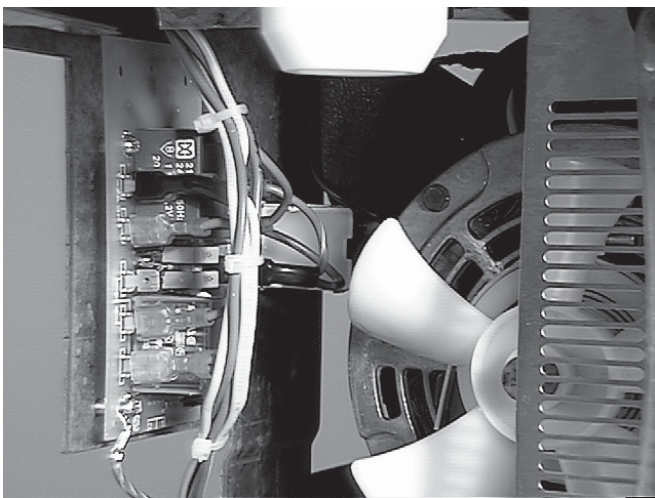

Figure 37. Liquid Level Control
3. Identify and remove the five wires from the front row of spade connectors then remove the blue wire from the back row of spade connectors. Figure 37.